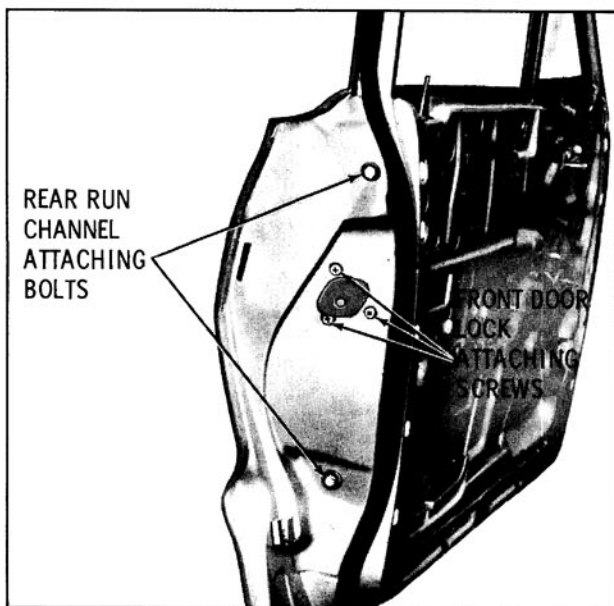

Fig. 16-48 Door Lock Attachment
- To adjust lower section of door window rear glass run channel in or out for proper alignment with door window, raise door window. Loosen rear run channel lower attaching bolts, adjust channel as required and tighten bolts. (Fig. 16-48)